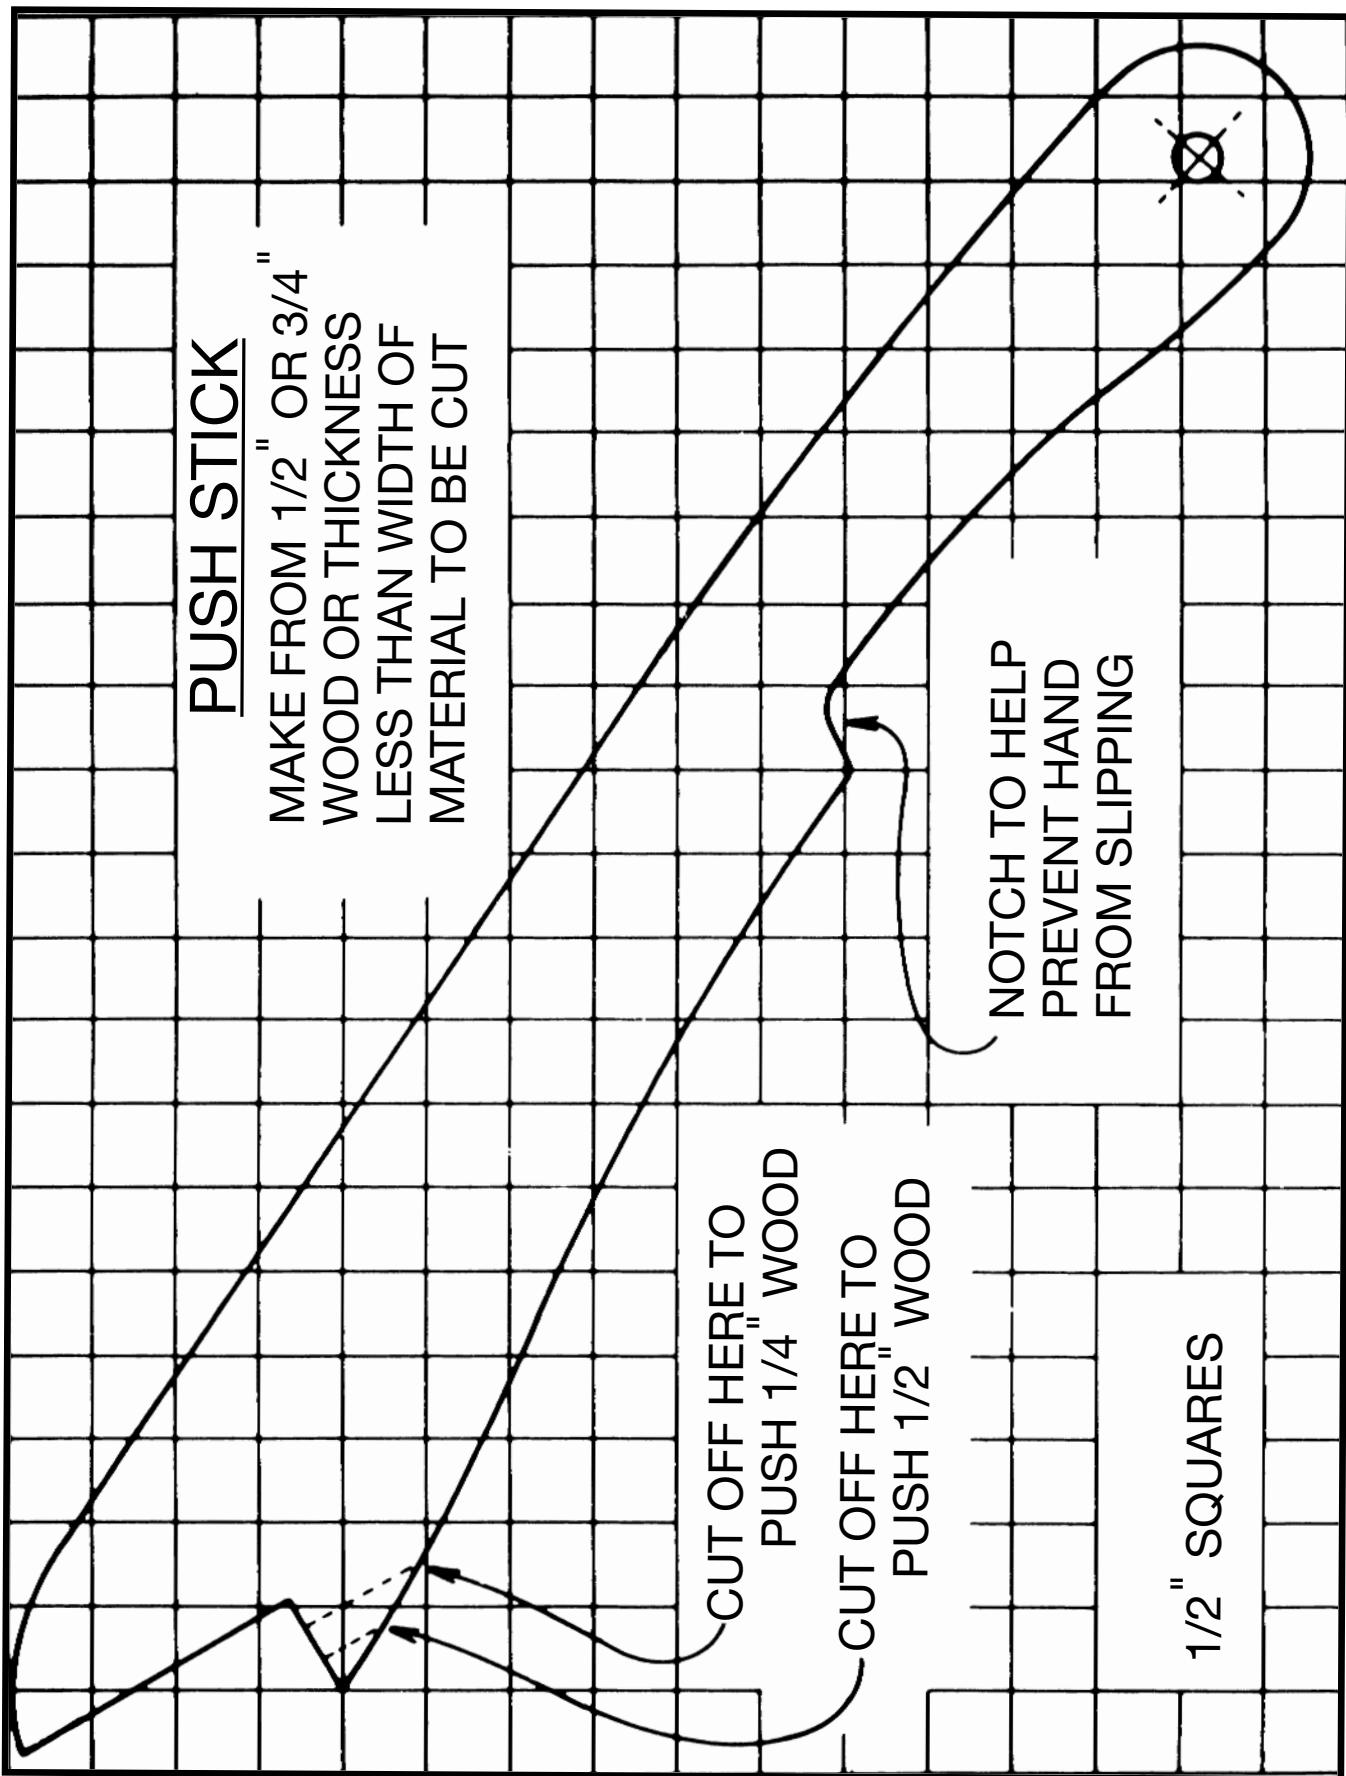

Fig. 78
**WARNING** When ripping work less than 4 inches wide, a push stick should be used to complete the feed and could easily be made from scrap material by following the pattern shown in Fig. 78.